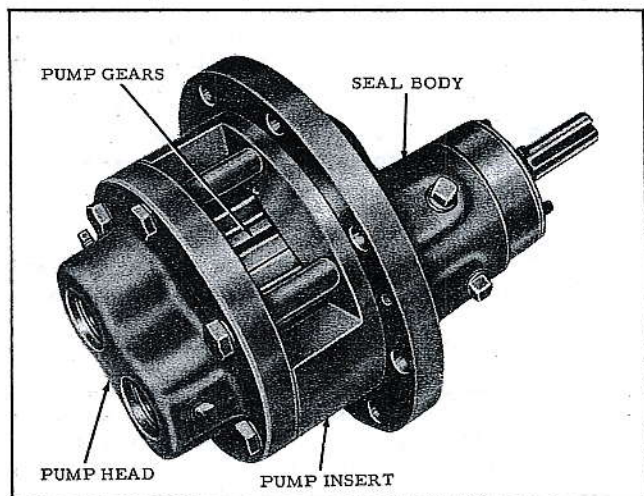

Fig. 11 - Replacement Pump Insert Assembly
A complete pump insert (consisting of seal body, pump head, shaft seal, pump gears and bearings) is available for replacement purposes (See Fig. 11). If it becomes necessary to replace the entire pump insert, refer to Figs. 11 and 12 and proceed as follows:
- (h) Install the new pump insert assembly in the pump body following the above procedure in reverse order. The leading edge of the pump head is chamfered to facilitate entering the pump head into its sealing "O" ring without pinching the "O" ring between the pump head and the pump body (See Figs. 11 and 12).
locating these three parts with respect to each other. Before tightening the cap screws which hold the pump insert together, be sure the two ferrules are in place over the two cap screws which pass through the suction inlet opening. (See Figs. 11 and 15). These ferrules prevent the pump head from being drawn up tight enough to bind the pump gears.